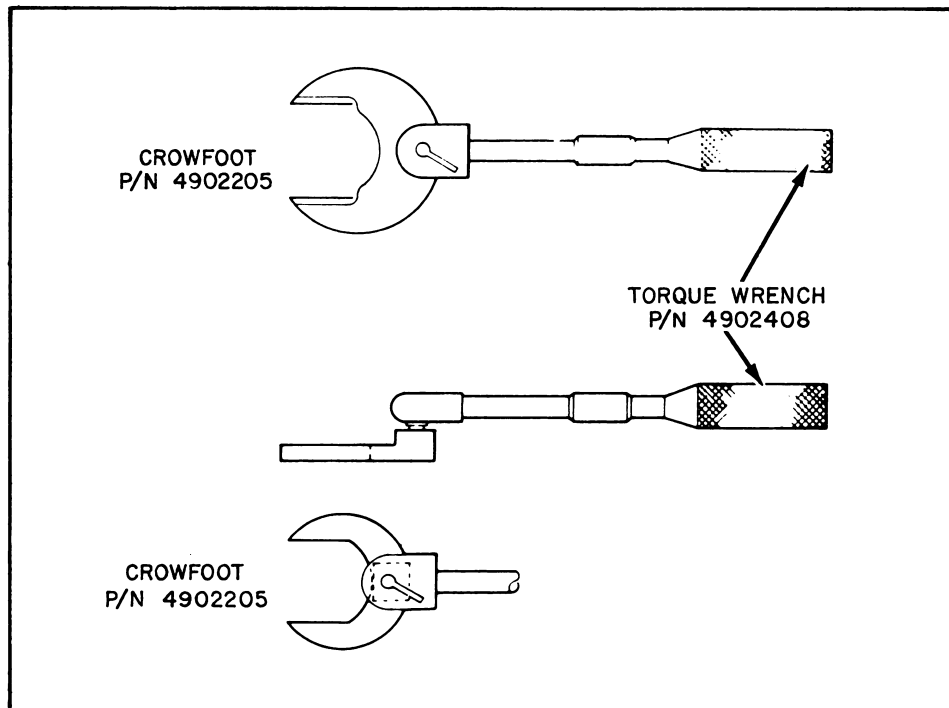

Figure 12-55.—Torque wrench set.
4. When directed to fuze the warhead, attach the appropriate nose fuze and tighten it with the torque wrench and crowfoot adapter (fig. 12-55) to 55 ± 5 foot-pounds. For this procedure, hold the warhead with either a strap or chain wrench.